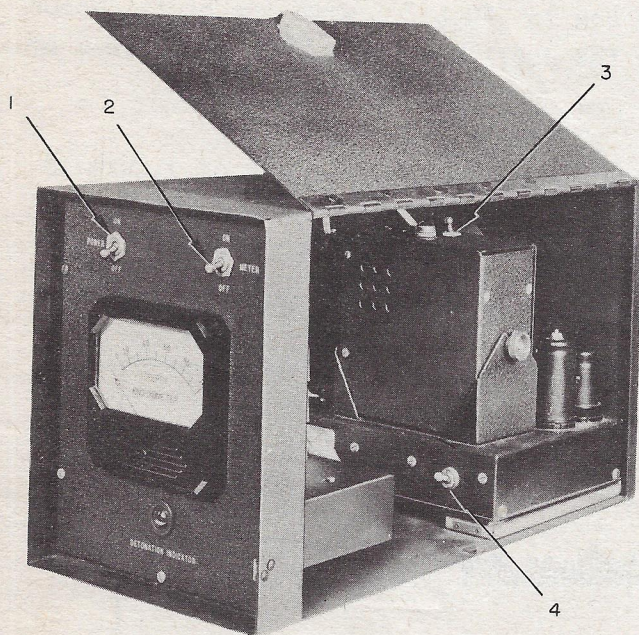

Figure 16 - Knockometer Switches
a. KNOCKOMETER. (See figures 16 and 17.)
(1) Check that the OFF-ON switch (3, figure 16) on the power supply unit is in the "ON" position. It should always be in that position.
(2) Check that the SINGLE-MULTI switch (4, figure 16) on the amplifier chassis is set for either single or multi-cylinder engine use. This switch is accessible through the side hinged panel of the cabinet.
(3) With the engine not running throw the POWER and METER switches (1 and 2, figure 16) to the "ON" position.